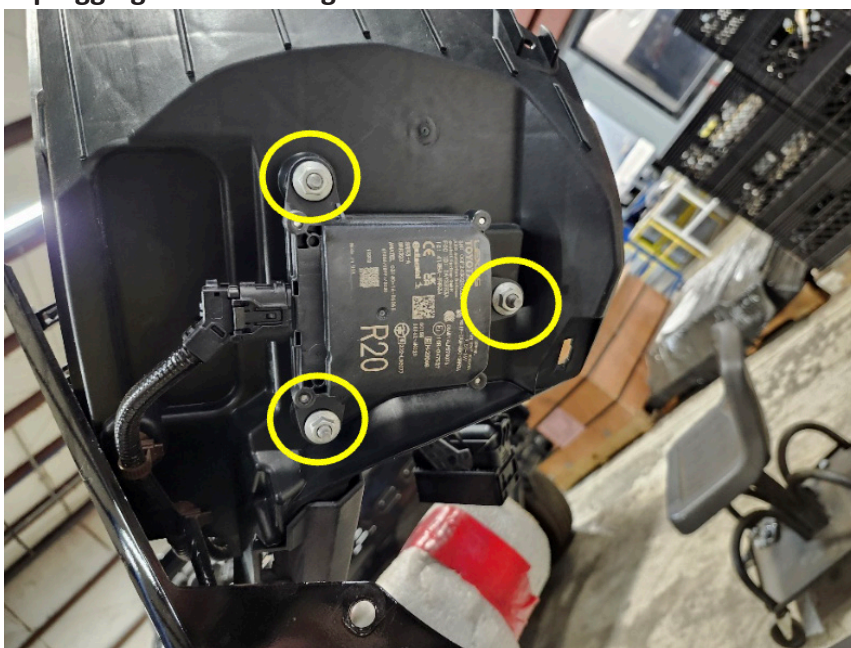

Figure 8
7. If equipped, remove the blind spot sensors from the OEM bumper using a 10mm socket wrench to remove the three bolts. (Figure 8) Be sure to note the side of the truck that sensor is removed from before unplugging and removing.